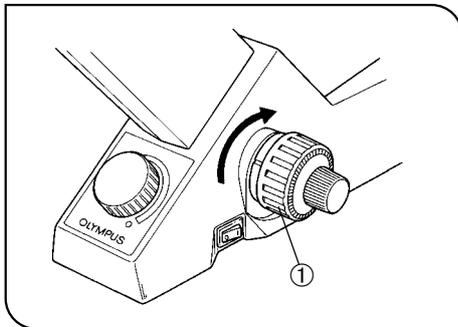

Fig. 6
(Fig. 6 & 7)
1. Turn the coarse adjustment knob ① towards the back until the revolving nosepiece is set at its lower limit. (Fig. 6)